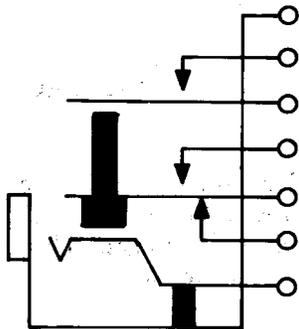

Fig. 5—411C Jack
2.04 411C: This single mounted jack (Fig. 5) is heavily insulated and arranged to be used with the 347-type plugs.